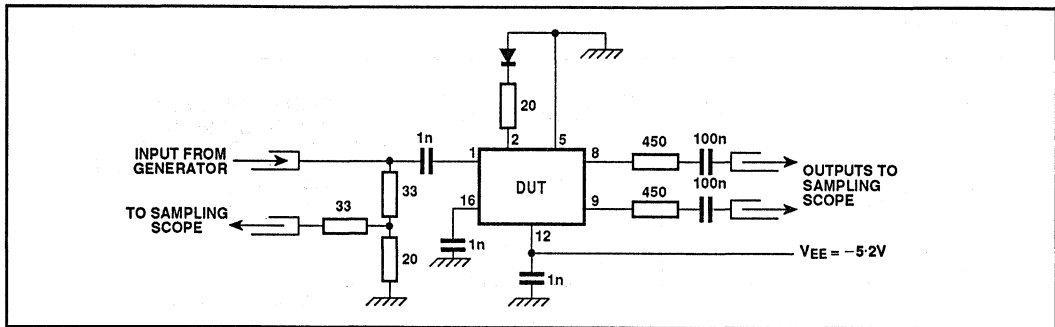

Fig. 6 Test circuit
2. The test configuration for dynamic testing is shown in Fig 6.